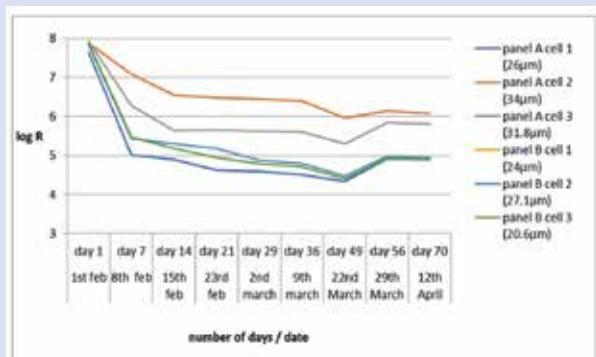
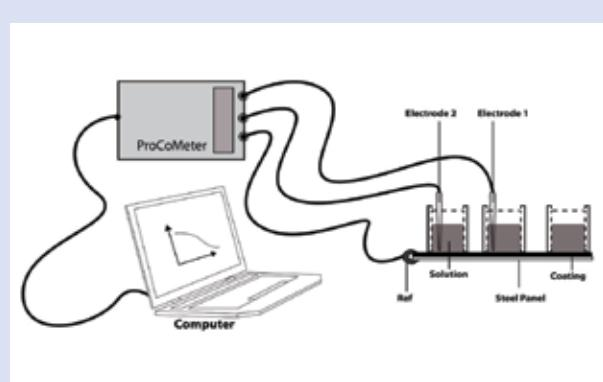

Figure 3: Typical results obtained from Hammerite coating of Resistance against time.
Figure 2: Schematic diagram showing how ENM is applied to coated metal (Single Substrate arrangement) (Solution is typically 0.1 M NaCl).
The actual Noise arrangement used is known as the single substrate (SS) method, diagrammatically shown in Figure 2. You need two working electrodes for noise measurements, and with the single substrate arrangement you can have these as two areas of painted substrate on the same panel, isolated in lab work, by being contained in cells (but in site work, a dry piece of coated steel with a Calomel electrode in each cell, is adequate). The third electrode (reference) is the panel itself. When you examine an organically coated metal, the noise signal tends to be attenuated by the ionic resistance of the coating, and you end up with that resistance being dominant. In this example, the coating was applied to Q panels, cells were attached, and the coated area within each cell was exposed to 0.1 M chloride solution for several months (with occasional topping up). The ENM results were compared against DC resistance. The results are shown in the Figure 3. As can be seen, some areas of coating started with low values of resistance which tended to drop with time, while others had higher initial values, and these remained high. There was a strong correlation between the R_n values, the R_{dc} values, and the visual appearance. Also, the effects of thickness and number of coats were investigated. Thickness proved more critical than number of coats, although both were important, the higher the thickness the more protective the coating. The advantage of the electrochemical measurement over visual observation is, a) it tells you what is happening earlier, b) it indicates problems when you cannot see what is going on, c) it can be automated, and d) it gives you a number!